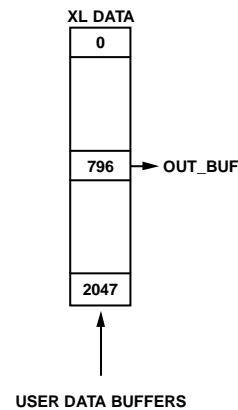

Figure 43. Register Activity, BUF_PNTR = 0x031C (MFFT Mode or AFFT Mode)
Writing a number to the BUF_PNTR register causes that sample number for user data buffer to load to the OUT_BUF register. For example, using the following code sequence on DIN writes 0x031C to the BUF_PNTR register: 0x8A1C and 0x8B03. This write causes the sample pointer to output (796) from the user data buffer to load to OUT_BUF (see Figure 43).